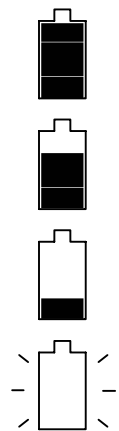

Figure 10: Battery indicators
- **Flashing Battery:** When the battery pictorial is empty and the frame is flashing, replace batteries within a couple weeks (Fig. 10).